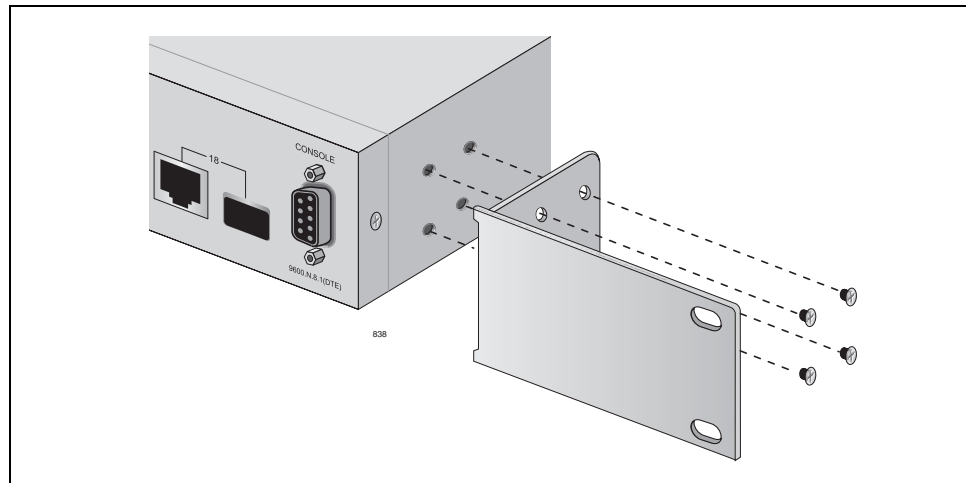
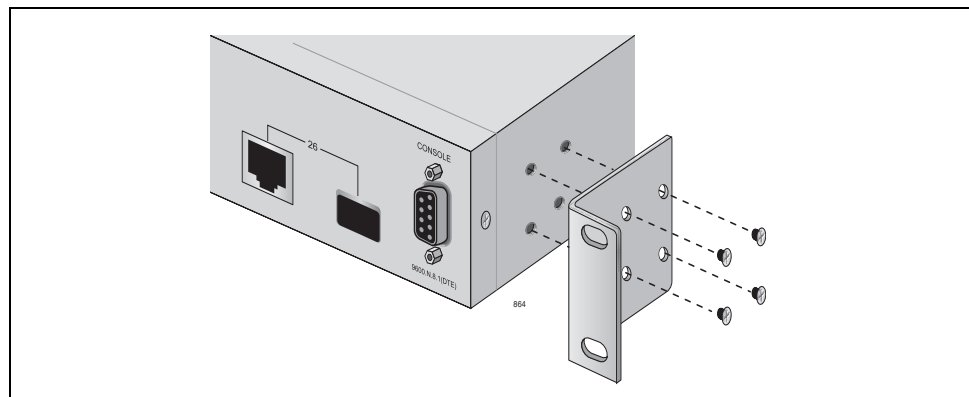

Figure 7. Attaching the Rack-Mount Bracket to the AT-FS750/16 Switch
Figure 8. Attaching the Rack-Mount Bracket to the AT-FS750/24 Switch
2. Install a rack-mount bracket on one side of the switch using a Phillips screwdriver and four of the rack-mount screws included with the switch. Figure 7 and Figure 8 illustrate installing the brackets on the AT-FS750/16 and AT-FS750/24 Switches, respectively.